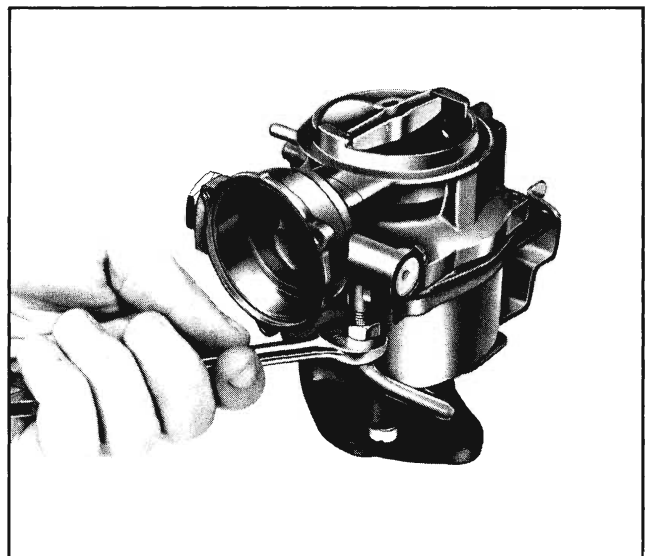

Fig. 6B-34 Tightening Choke Suction Tube Fitting
2. Place new hex fitting packing on choke suction tube. Tighten fitting on choke housing sufficiently to prevent loss of vacuum (Fig. 6B-34).